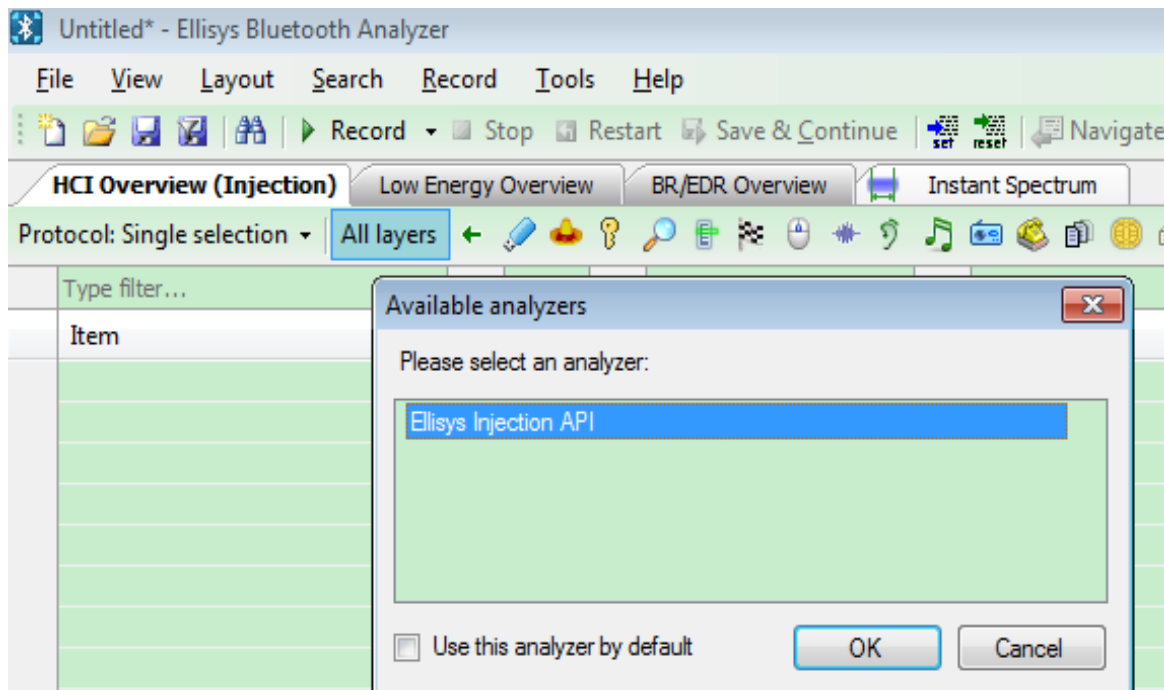

Figure 5-2 Open Ellisys
1. Open Ellisys, as shown in Figure 5-2.